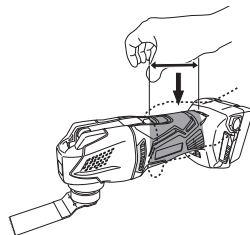

Fig. 1
1. **Always hold the tool firmly with one hand on housing (Fig. 1). Do not touch the metal part.**